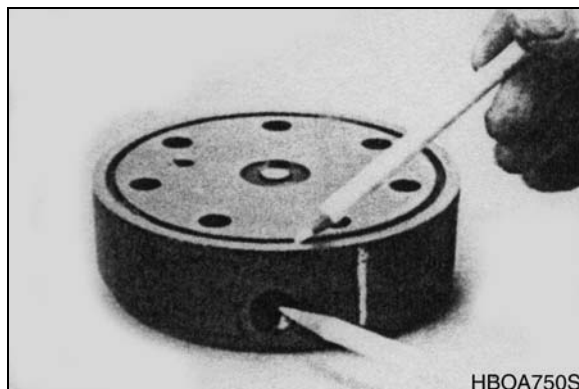

Figure 11
6. Thoroughly wash end cover (2) in proper solvent and blow dry. Be sure the end cover valve apertures, including the internal orifice plug, are free of contamination. Inspect end cover for cracks and the bolt head recesses for good bolt head sealing surfaces. Replace end cover as necessary. See Figure 11.